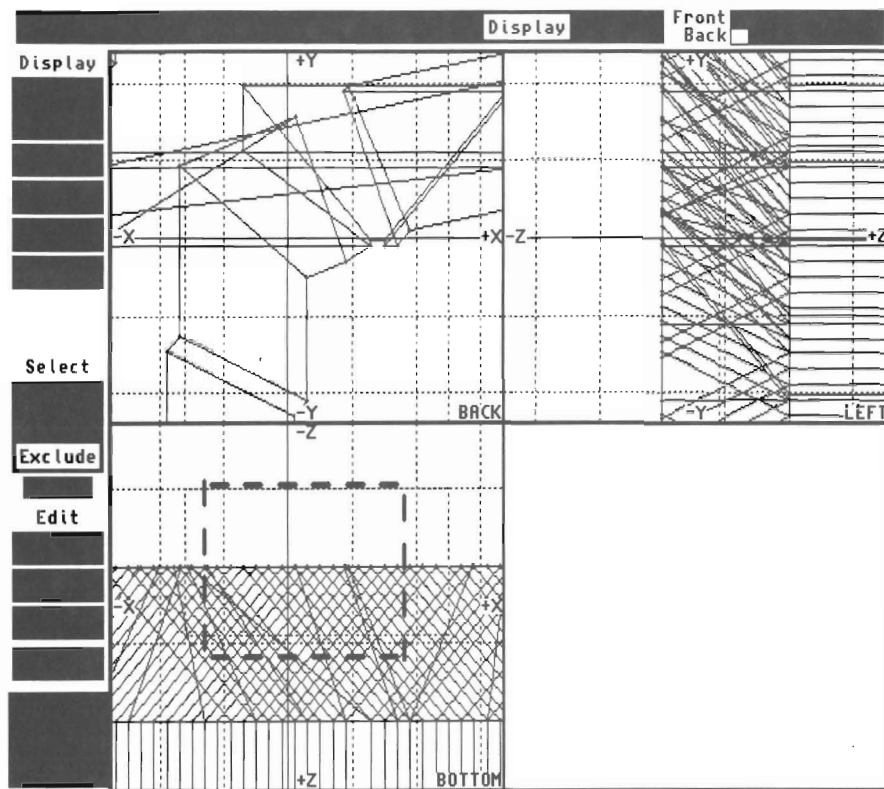

Figure 4
gram. Click on Disk and load the text object output from Pixel 3D. If you're in the default Logo (XY) view, you'll see a closeup of the logo from below in the Bottom view in the lower left quadrant. We want to drag an exclusive volume around the frontmost (i.e. forward-facing) polygons only. Click on Volume on the left side of the screen, then drag a box around the front (topmost in the Bottom view) set of polygons (see Figure 4—heavy lines added for emphasis). Don't worry about left and right; for now we're mainly concerned with top and bottom.